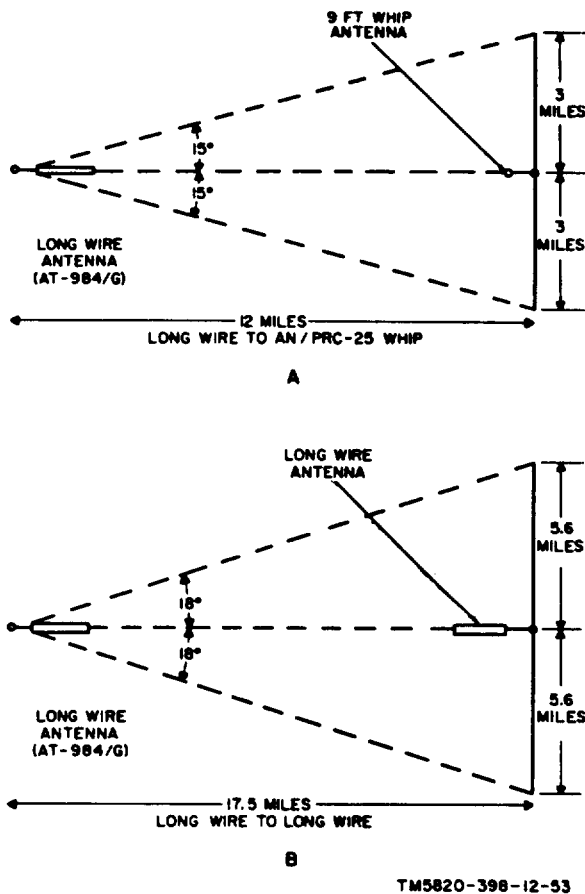

Figure 6-6. AT-984A/G, radiation patterns and siting diagram.
(1) *Siting* (fig. 6-6). The operating range of the AN/PRC-25 and is primarily
4. When the antenna is aimed toward the other radio station that is also equipped with a long-wire antenna, the area of communication covers 18° of azimuth on either side of the line along which the antenna is aimed (B, fig. 6-6). If the other station is equipped only with a whip antenna, the area of communication covers only 15° (A, fig. 6-6).